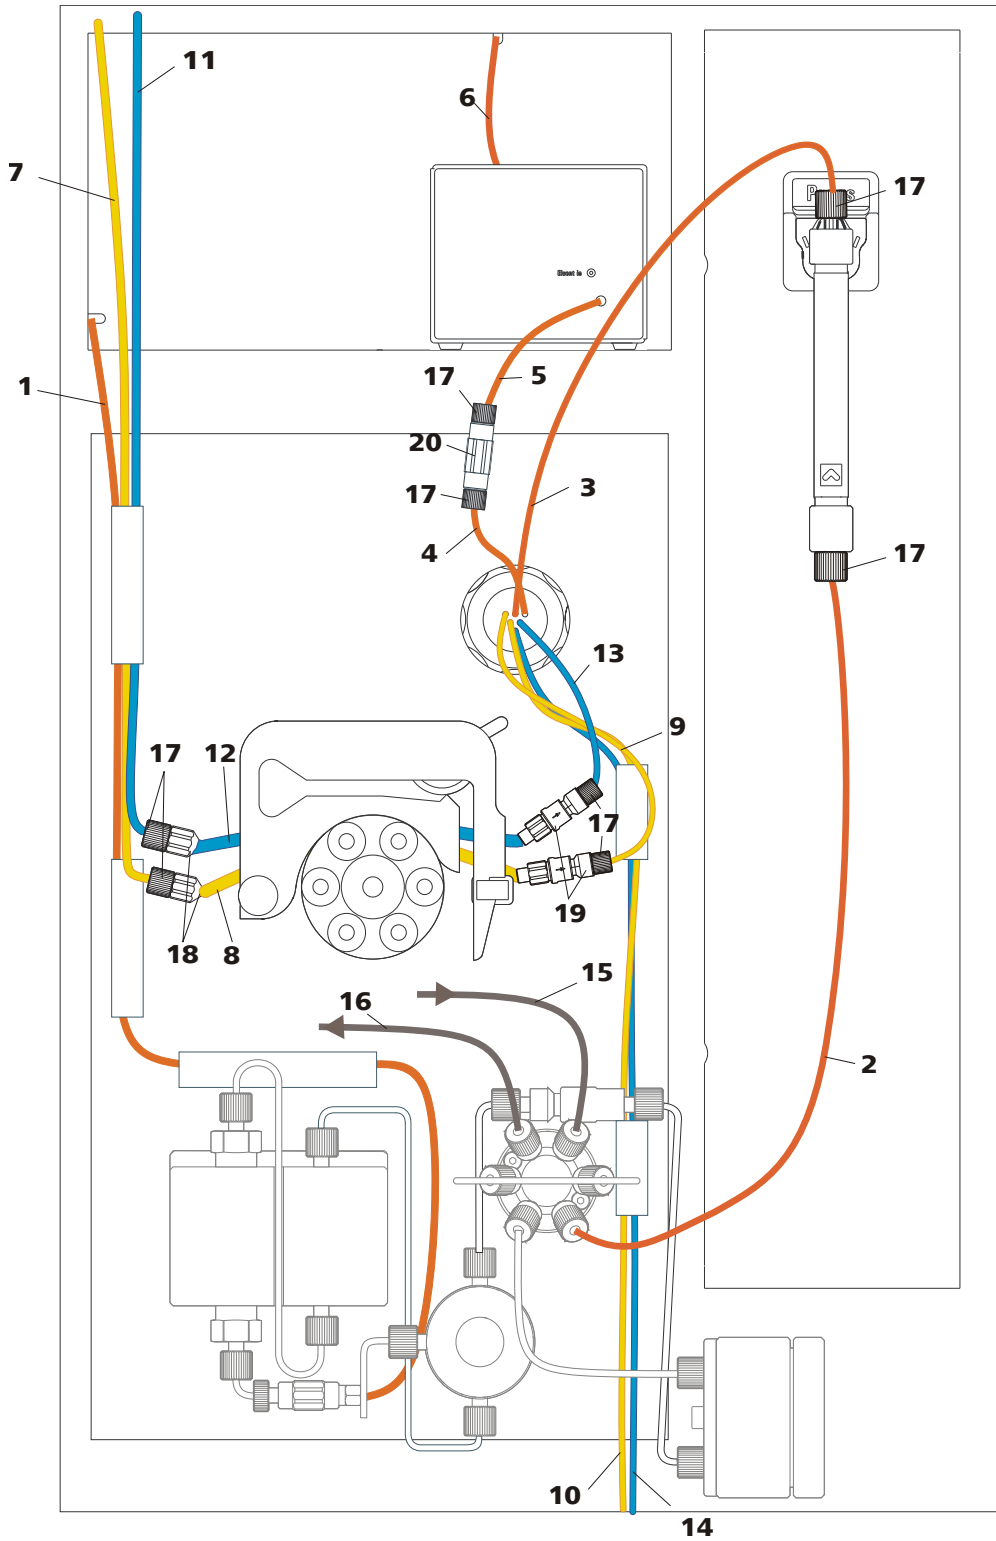

Figure 3 Installation diagram 882 Compact IC plus – Anion
- an installation diagram (*see Figure 3, page 14*), showing a completely installed 882 Compact IC plus – Anion.